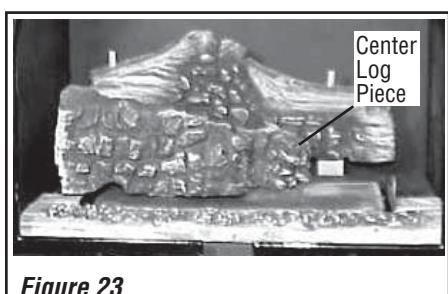

Figure 23
- Place the center log piece over the corresponding pins next to the front left log as shown in Figure 23.